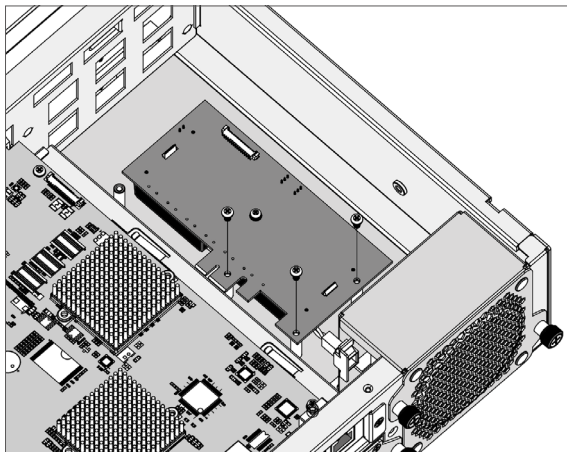

Figure B-7, Secure the Battery Module
2. After removing the cover, then secure the battery pack module (ARC-1883-BAT/CAP, reference NO.1 and NO.2 in Figure B-5) in the bottom of the enclosure (for ARC-7208/ARC-7212), as shown in Figure B-7.